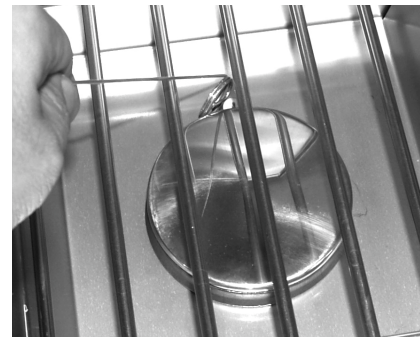

Fig. 29-2 Manual lighting
2. Insert either a burning long-barrel butane lighter, a burning long-stem match, or a burning match held by a wire extension holder through the cooking grid opening to the burner (Fig. 29-2). Hold the flame against the edge of the burner.
4. If the burner does not light within five (5) seconds of turning the control knob, **immediately depress the knob and turn the valve to OFF**. **WAIT FIVE (5) MINUTES** before repeating steps 2 through 4 of the **MANUAL LIGHTING** instructions.